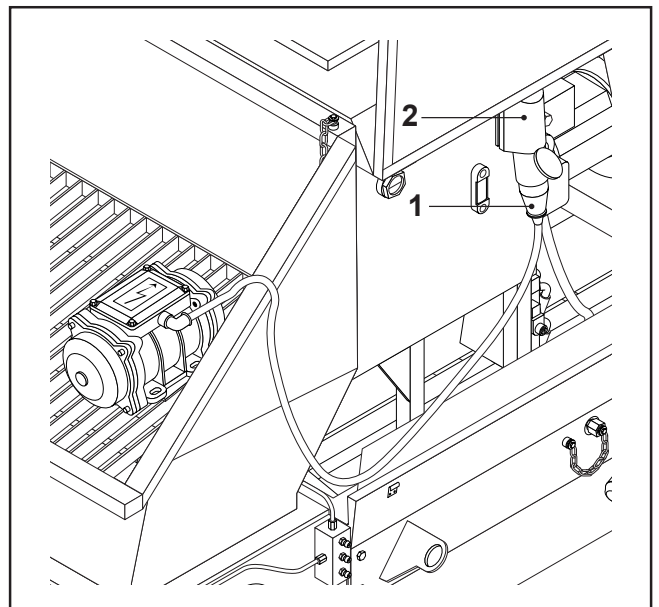

FIG.22
- Open the small door (on the side where the electronic control panel is located), connect the electric vibrator's plug (FIG. 22-REF. 1) to the machine's socket (FIG. 22-REF. 2) located on the hydraulic oil tank and close the door.